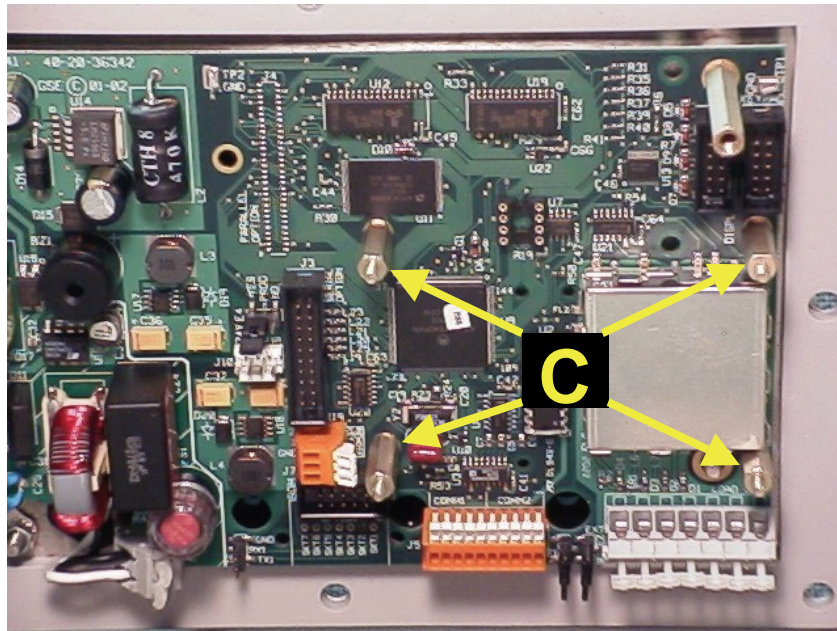
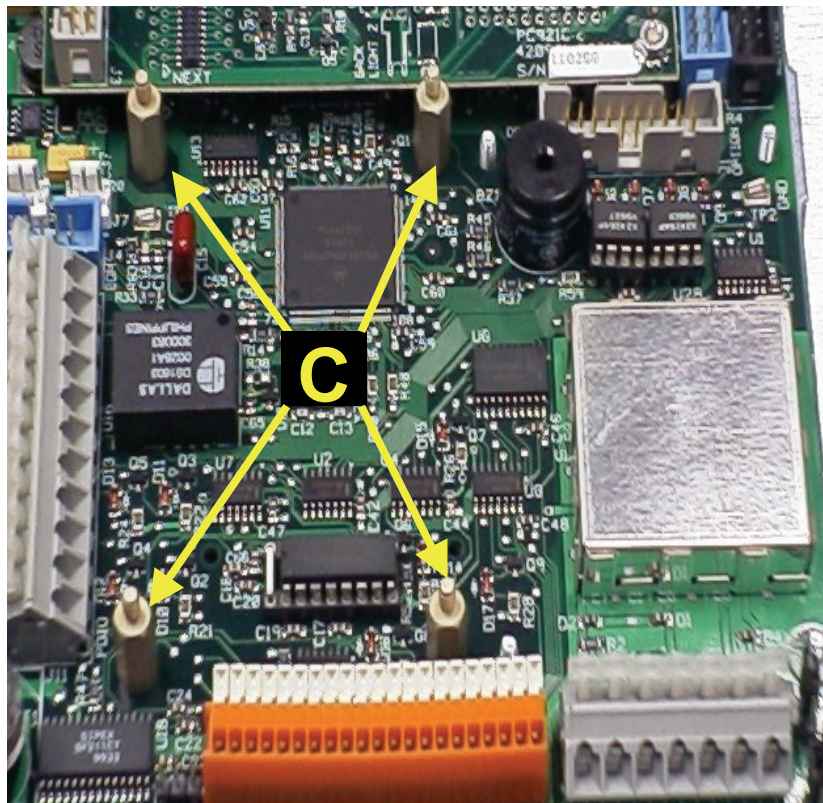

Figure 3: Installing the 14mm Standoffs (C), Model 460/465
Figure 4: Installing the 14mm Standoffs (C), 560 and 660 Series
3. Install the four 14mm standoffs (C) over the option-mounting studs as shown in *Figure 3* and *Figure 4*.